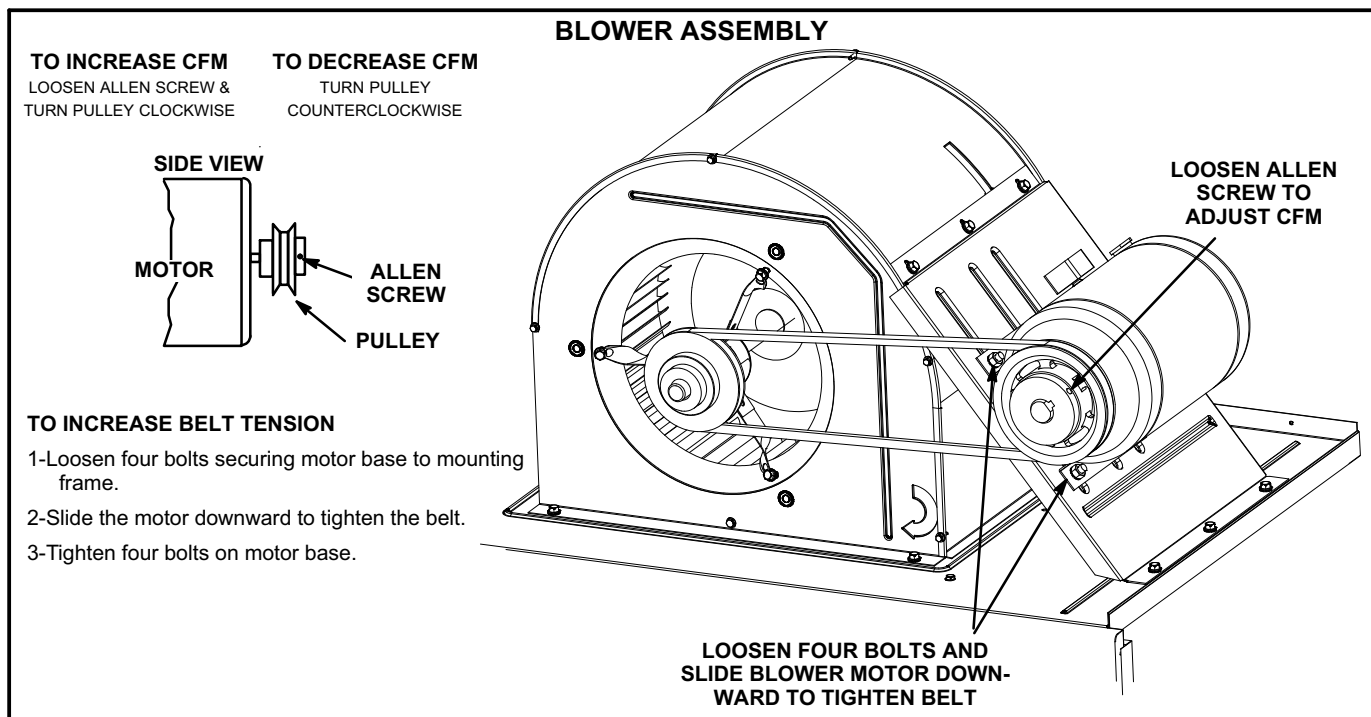

FIGURE 21
The blower RPM can be adjusted at the motor pulley. Loosen Allen screw and turn adjustable pulley clockwise to increase CFM. Turn counterclockwise to decrease CFM. See figure 21. Do not exceed minimum and maximum number of pulley turns as shown in table 8.
- 1- Loosen four bolts securing motor base to mounting frame. See figure 21.